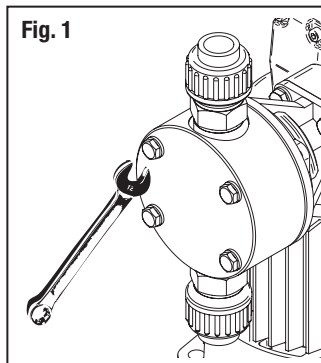
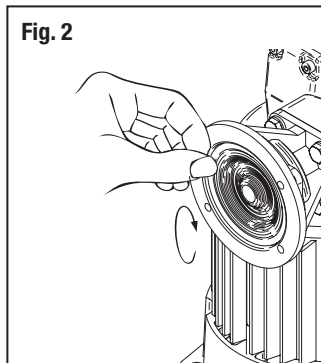

Fig. 1
Fig. 2
1. Remove the dosing head ① with a suitable tool (Allen key SW 10 or SW13 for E120). (see Fig. 1)
2. The dosing pump is set whilst the motor is running at zero-capacity, whereby the diaphragm ② is secured into its stop position.
4. Diaphragm ②, take its edge and turn it anti-clockwise. So that the supporting plate ③ behind the diaphragm is also moved. (see Fig.2)